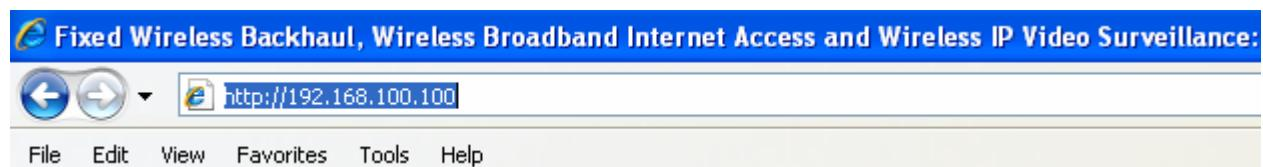

Figure 7: HTTP Login
- The upper row of pins are for the primary power supply. If using a redundant power supply, simply connect the second set of wires to the lower row matching the same polarity as shown in Figure 7.